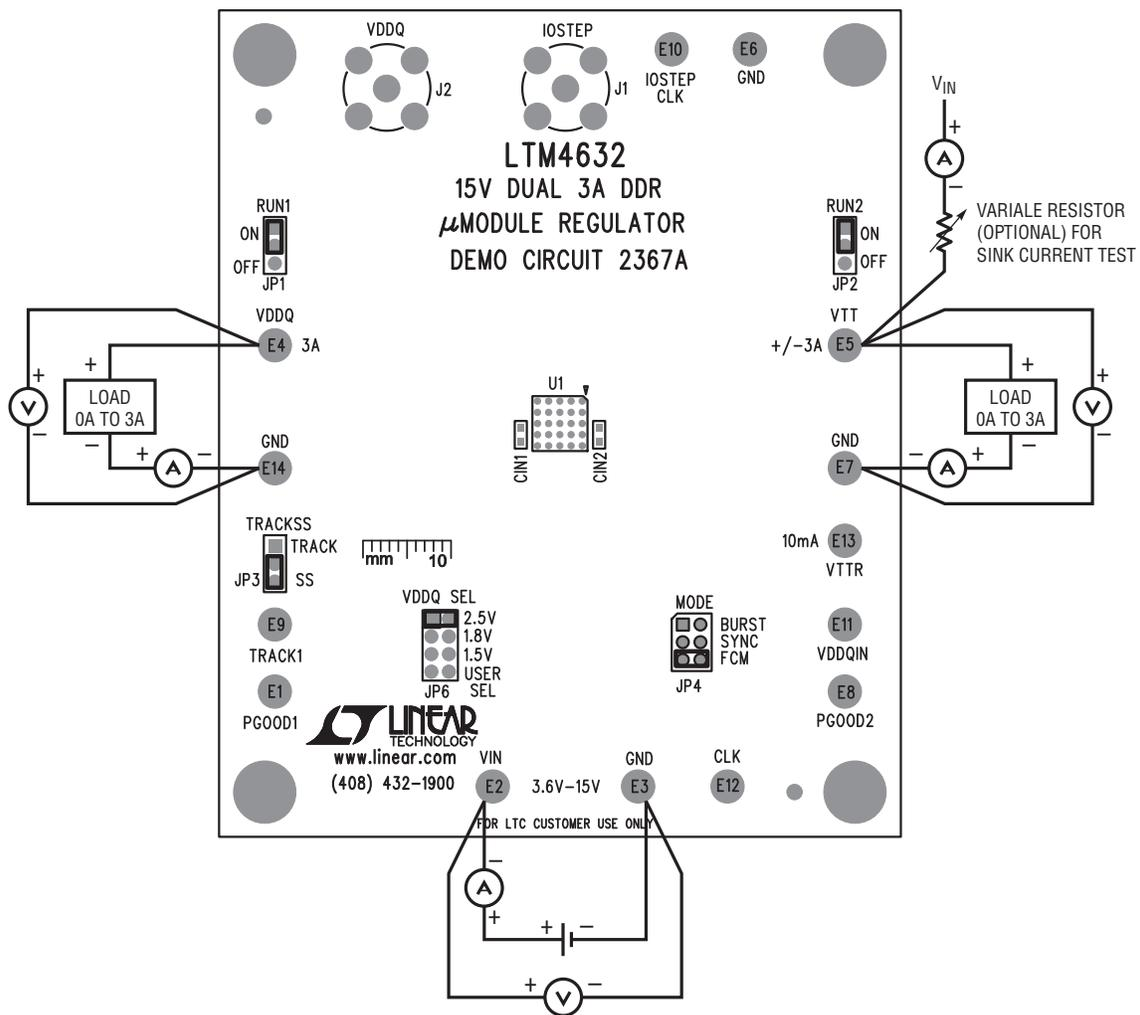

Figure 1. Test Setup
Demonstration circuit DC2367A is an easy way to evaluate the performance of the LTM4632. Please refer to Figure 1 for test setup connections and follow the procedure below.
3. With power off, connect the loads, input voltage supply and meters as shown in Figure 1.